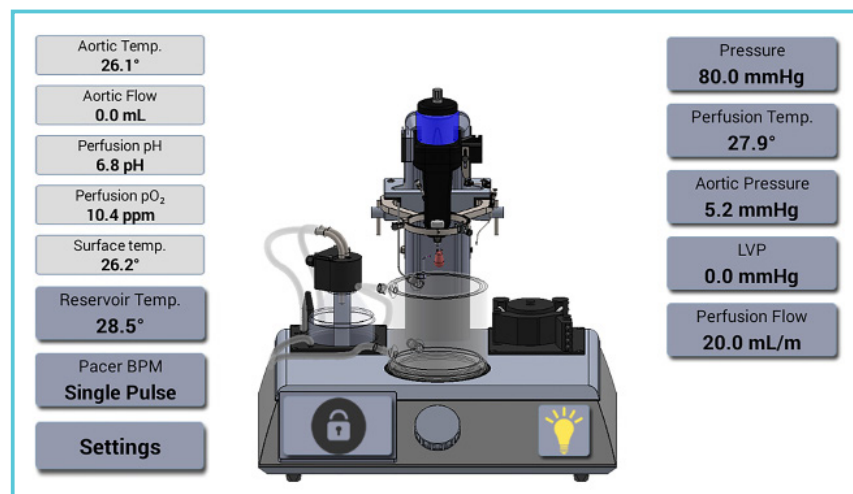

Fig.22.: The blue color of the perfusion heating unit indicate that the actual temperature is lower than the setting temperature.
- Now the Perfusion Heating unit will turn blue on the MyoHEART system as shown in fig. 22, indicating that the system has not reached the setting temperature but that the heating is on.